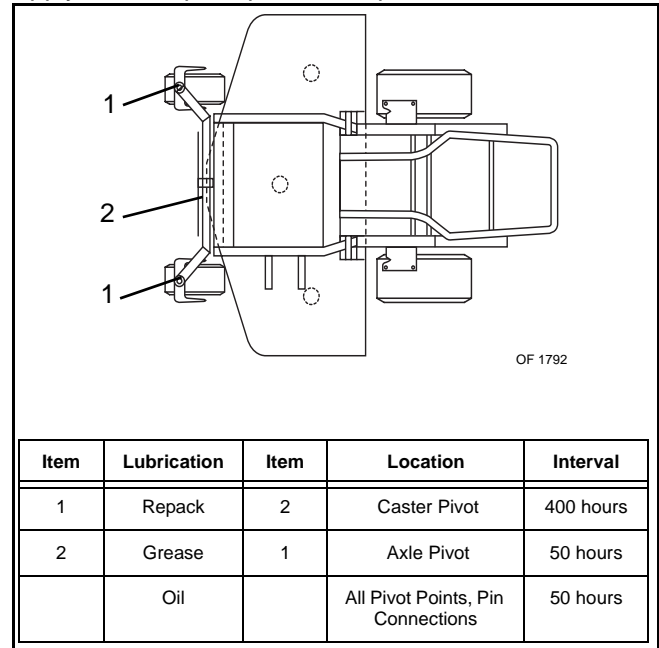

Figure 7
Lube fitting locations are: front axle pivot (1) (Figure 7)